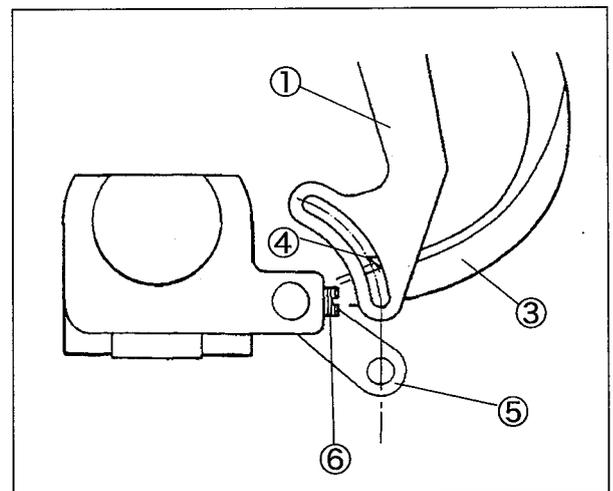

Fig. 6-9
- (1) Loosen the screw ⑥ of the top cover thread eyelet ⑤. (Fig. 6-9)
- (3) Set the eye of the top cover thread eyelet ⑤ on the extending line from the slot of the top cover thread guide ①. (Fig. 6-9)
- (4) Tighten the screw ⑥ securely. (Fig. 6-9)